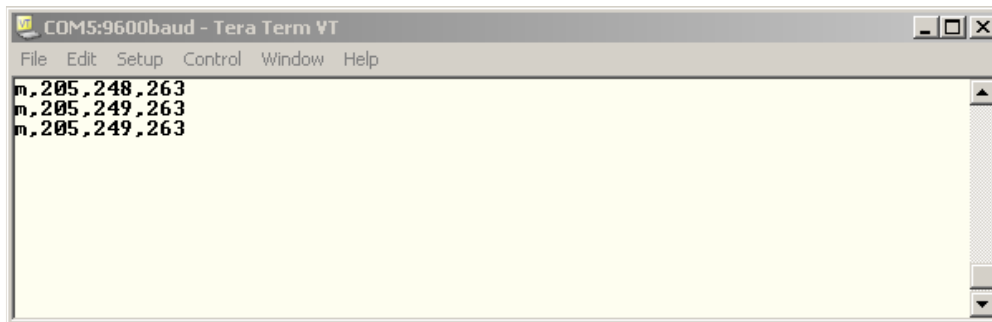

Figure 4.6 Black surface detection
- 7) To verify if the sensor detects black colour, enter “M” while placing the *e-puck* on a black surface. Printed black-ink may not be detectable. All data you get should be positive as in Figure 4.6.